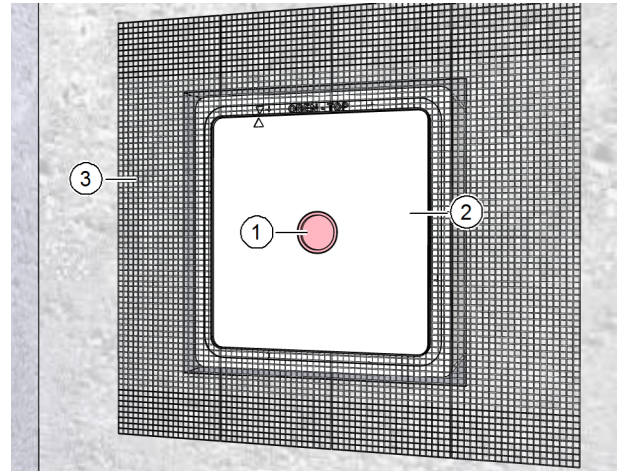

Fig. 15: Plastering the wall box on the inside
- ▶ Make sure that the signal cover (item 1 in Fig. 15) is seated in the plaster cover (item 2 in Fig. 15).
- ▶ Apply the plaster scrim M-WRG-PG (item 3 in Fig. 15) to the wall box and the solid wall.